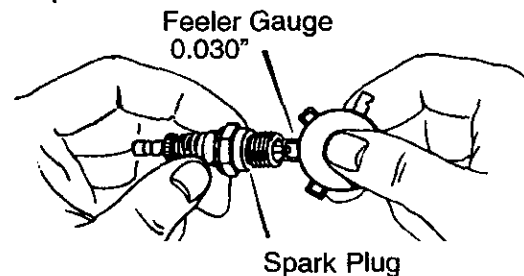

Figure 40
2. Be sure **spark plug** is clean and free of foreign material. Check electrodes gap with a **wire feeler gauge** and reset gap to 0.030" if necessary. See Figure 40.